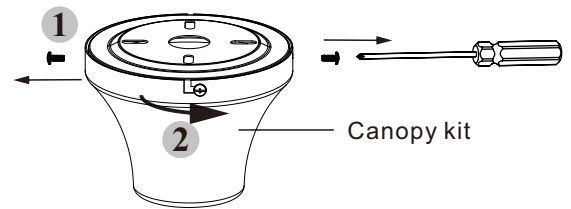

Figure 7a
a. Loosen the hex screws on the canopy kit and remove the two screws at non-slotted positions (Fig. 7a).